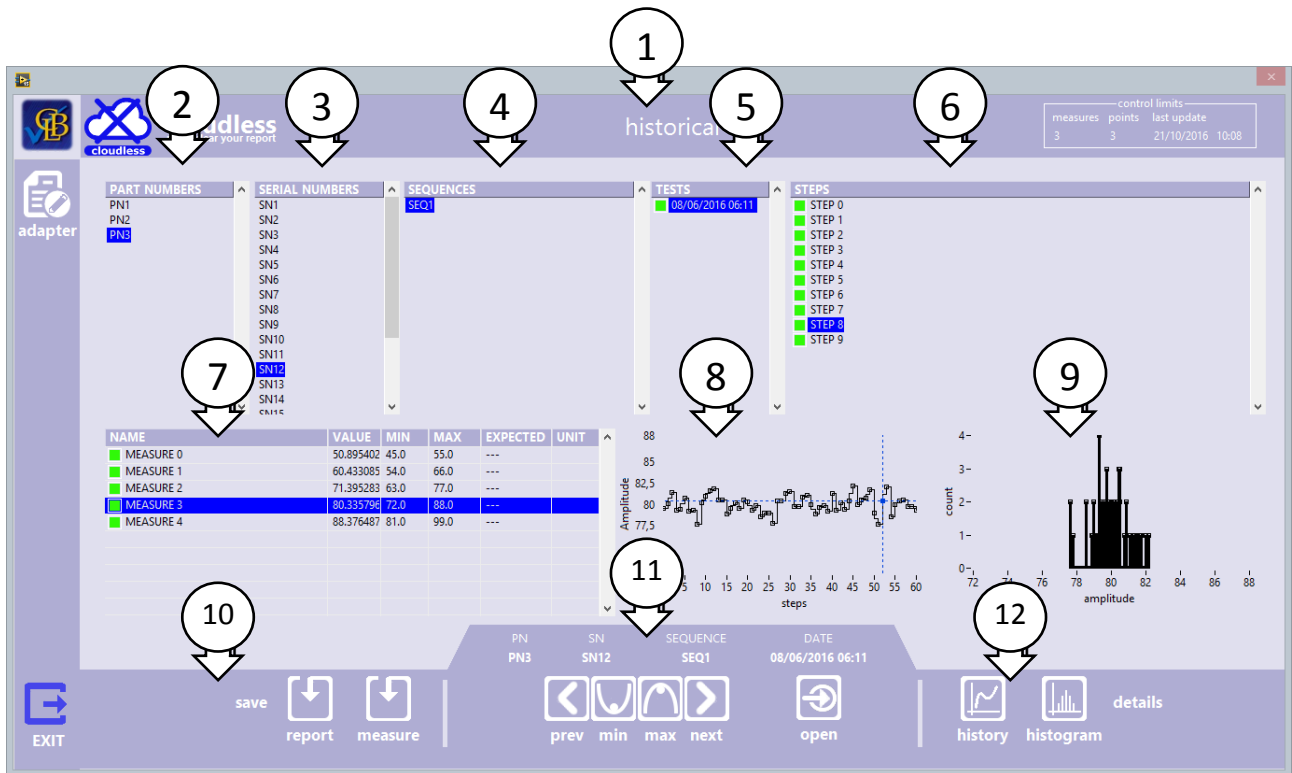

Figure 16: historical subpage
Select from the top-side bar the item **historical** (1): the subpage of Figure 16 will appear on the video. In this subpage there are the following info: